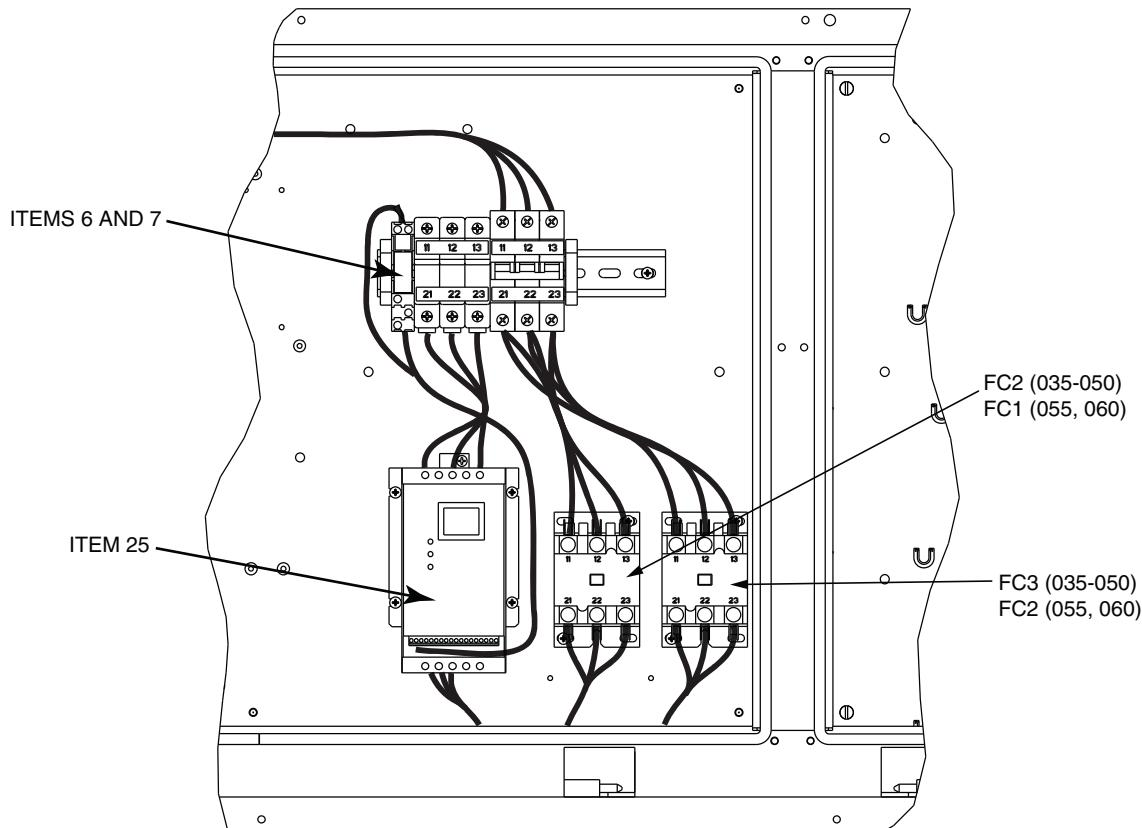

Fig. 7 — Motormaster V Installation Location — 30RAP035-060 Units
3. Mount Motormaster V controller (Item 25) in location where FC1 was mounted, using 4 AL80AU170 screws (Item 9) provided. See Fig. 7.